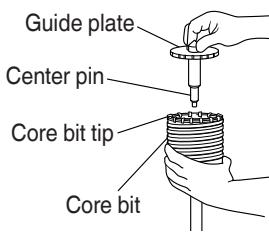

Fig. 20
- (3) Insert the center pin into the guide plate until it stops. (4) Engage the guide plate with the core bit, and turn the guide plate to left or right so that it does not fall even if it faces downward. (Fig. 20)